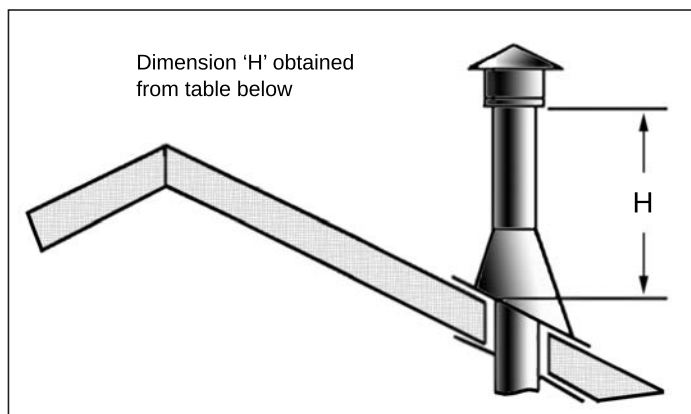

Figure 52 Height of Vertical Termination; Reference Table 7
- Step 8.** Continue to add pipe sections until the height of the vent cap meets the minimum code requirements. Refer to Figure 52 and Table 7. Note that for steep roof pitches, the vent height must be increased. In high wind conditions, nearby trees, adjoining roof lines, steep pitched roofs, and other similar factors can result in poor draft, or down drafting. In these cases, increasing the vent height may solve the problem.
Table 7: Minimum 'H' for Figure 52.